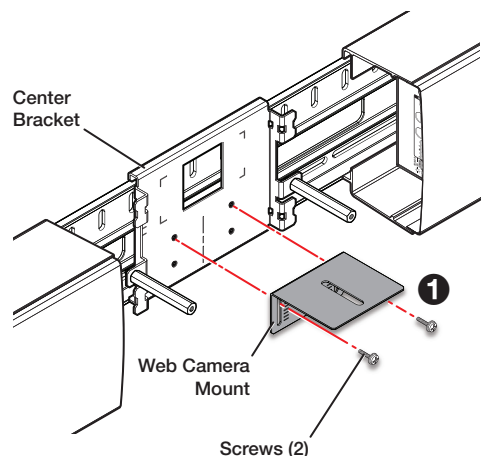

Figure 23. Inverting the Webcam Shelf
1. Install the webcam shelf by attaching it to the center bracket using two screws inserted through the two vertical slots on the shelf and into two mounting holes in the bracket. There are two pairs of available holes in the bracket. The shelf height can be adjusted by positioning the screws in the shelf slots (figure 23, ①).